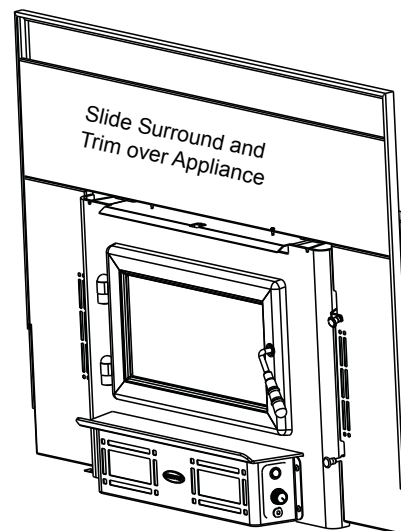

Figure 41.4
5. Slide the assembled trim set over the surround set. and then over the appliance. **Figure 41.4**.